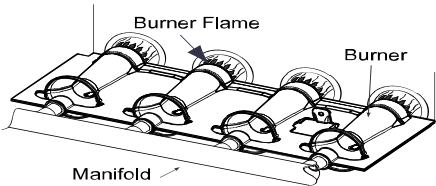

Fig. 64 – Burner Flame
- i. When correct input is obtained, replace cap that conceals gas valve regulator adjustment screws. Main burner flame should be clear blue, almost transparent (Fig. 64).